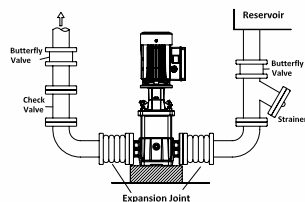
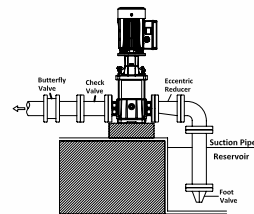

Fig. 4 Flooded suction
Fig. 5 Suction lift
6.4 Suction Pipe: The suction pipe should be adequately sized and run as straight and short as possible to keep friction losses to a minimum (minimum of four pipe diameters straight run prior to the suction flange). Avoid using unnecessary fittings, valves or accessory items. Butterfly or gate valves should only be used in the suction line when it is necessary to isolate a pump because of a flooded suction condition. This would occur if the water source is above the pump; see fig. 4 and fig.5 Flush piping prior to pump installation to remove loose debris.